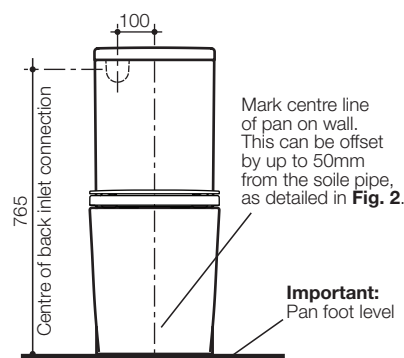
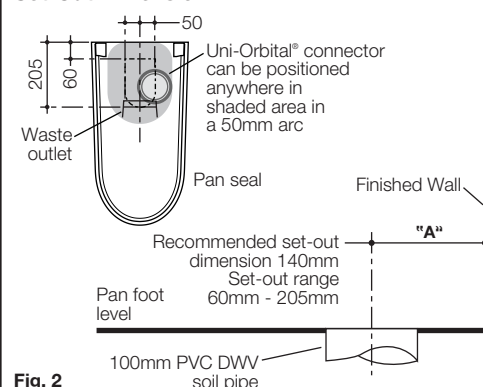
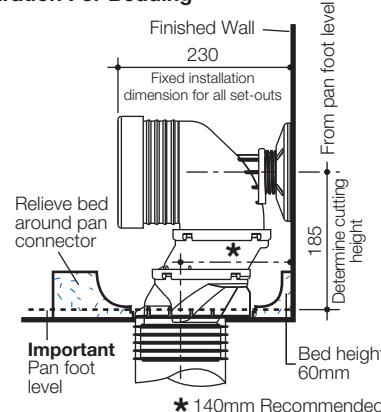
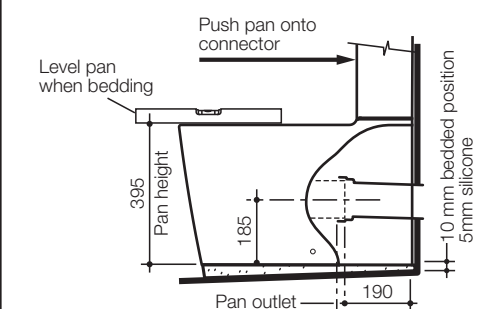

Fig. 1
Fig. 2
Fig. 3
Fig. 5
The Liano Cleanflush™ pan is universal for both 'S' and 'P'-Trap installations as detailed. The recommended set-out for 'S'-Trap installations is 140mm from the finished wall with set-out flexibility for existing soil pipe positions ranging from 60mm to 205mm and 50mm sideways adjustment with the Uni-Orbital® connector supplied, as detailed in Fig. 2.
- 1- Mark centre line of the pan on finished wall, as detailed in Fig. 1. This is to be used as a guide when connecting the pan. The centre line can be offset by up to 50mm from the soil pipe, as detailed in Fig. 2.
- 2- Determine set-out "A" of existing pan connector, as detailed in Fig. 2. Set-out range 60mm - 205mm. Recommended set-out 140mm, as detailed in Fig. 3. For 'P' trap installation see Fig. 5.
- 4- Prepare bedding sand cement mixture 3:1 to depth of 60mm as detailed in Fig. 3. **Note:** Do not fill the foot of the pan with bedding mix or include lime or fast drying cement into the mix, these may cause cracking in the foot of the pan.